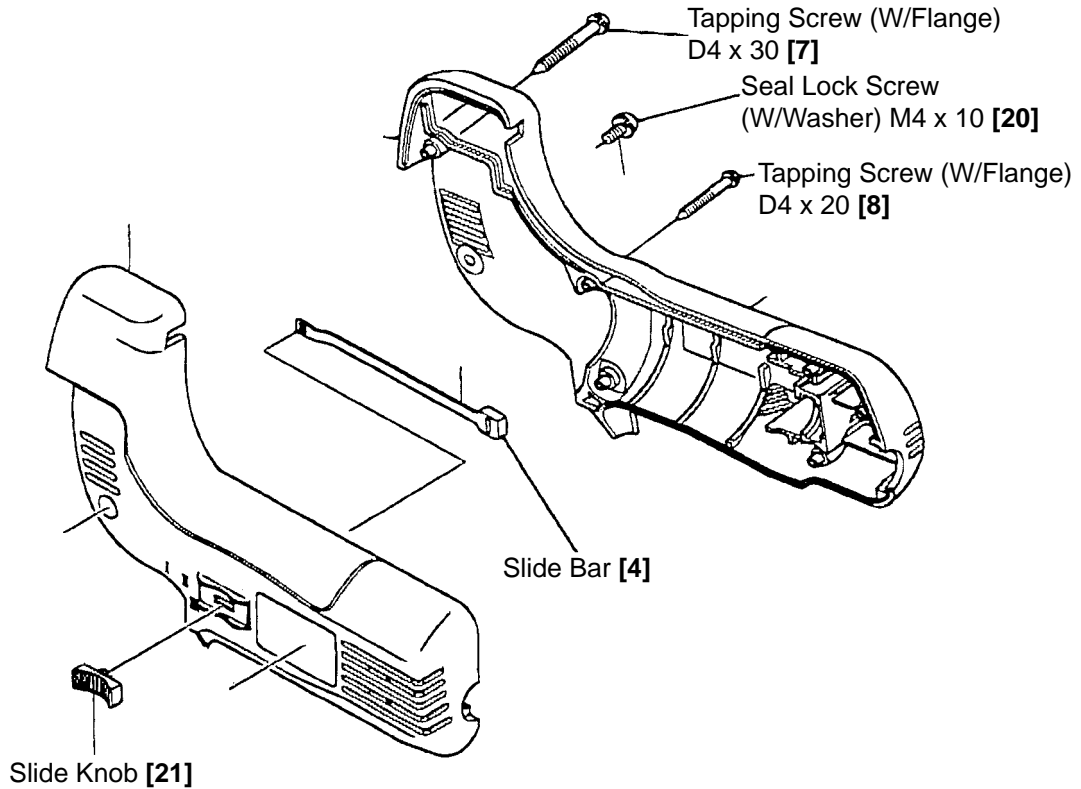

Fig. 6
(3) Disassembly of Housing (A).(B) Set [1] for the Model CJ 120VA (Figs. 6 and 7)
Remove the Seal Lock Screw (W/Washer) M4 x 10 [20], Tapping Screws (W/Flange) [7] [8], and open one side of the housing. (Fig. 6)
By pushing the Slide Knob [21] with a thin screwdriver, these parts can be separated from the housing. (Fig. 6)